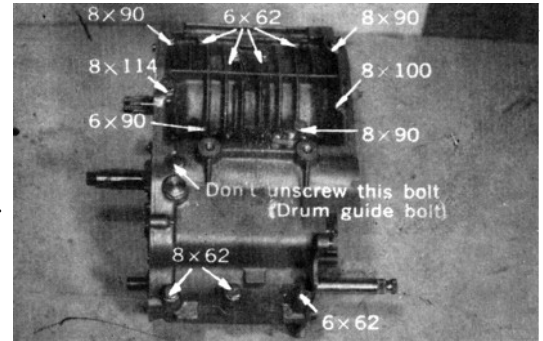

Fig. 28 Removing bolts of lower crankcase
17. Remove thirteen hexagonal bolts, one 8×114 , three 8×90 , two 8×62 , five 6×62 , one 8×100 and one 6×90 of lower crankcase. (Fig. 28)